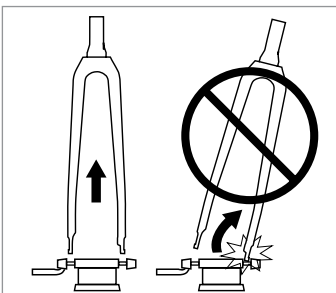

Figure 7
- When removing the fork from the clamping device make sure to pull/push straight up allowing the dropouts to be removed evenly and at the same time. Do not tilt the bike to remove it from the clamping device, as dropout damage can result (fig 7).